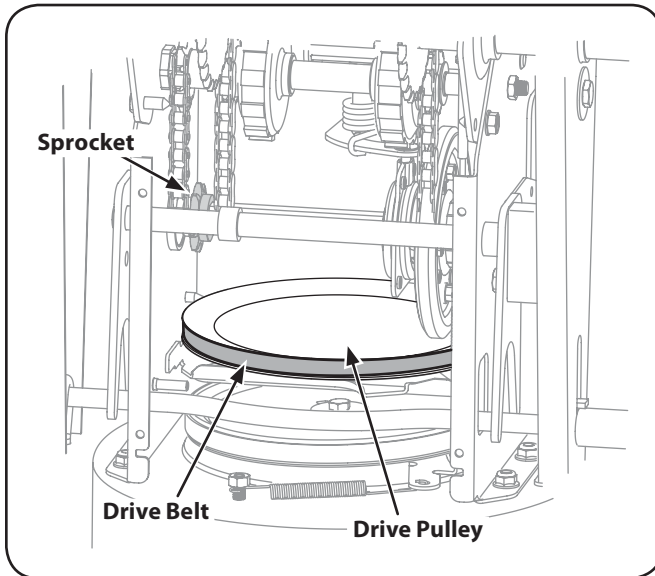

Figure 7-7
- Slip the drive belt off the pulley and between friction wheel and drive pulley. See Fig. 7-7.
NOTE: Make sure to install the gear shaft through the sprocket shown in Fig. 7-7. If the sprocket fell from the snow thrower while removing the hex shaft, place the sprocket on the hex shaft. Position the hex hub of the sprocket toward the friction wheel when sliding the sprocket onto the shaft. See Fig. 7-7.